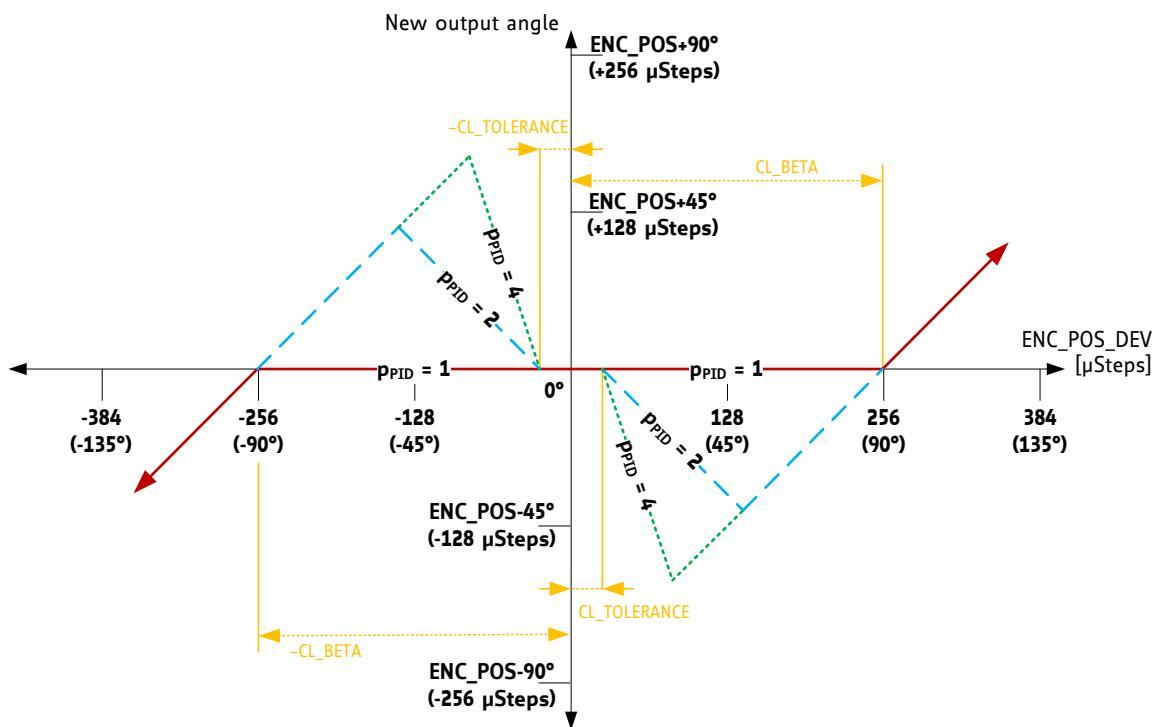

Figure 66: Calculation of the Output Angle with appropriate CL\_DELTA\_P
*CL\_DELTA\_P* is a proportional controller that compensates a detected position deviation between internal and external position. See also Figure 66, page 162.